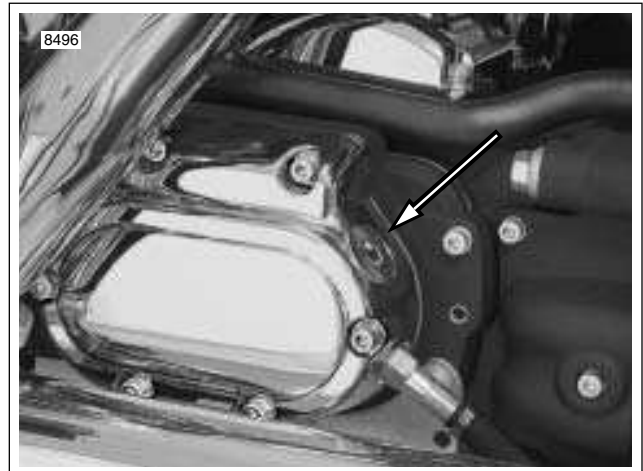
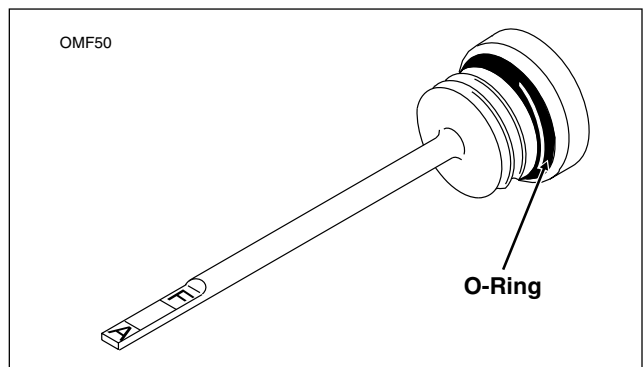

Figure 1-11. Clutch Release Cover
Figure 1-12. Transmission Lubricant Filler Plug/Dipstick
1. Remove the filler plug from the clutch release cover on the right side of the transmission case. See Figure 1-11. Check the O-ring for tears, cuts or general deterioration. Replace as necessary. See Figure 1-12.